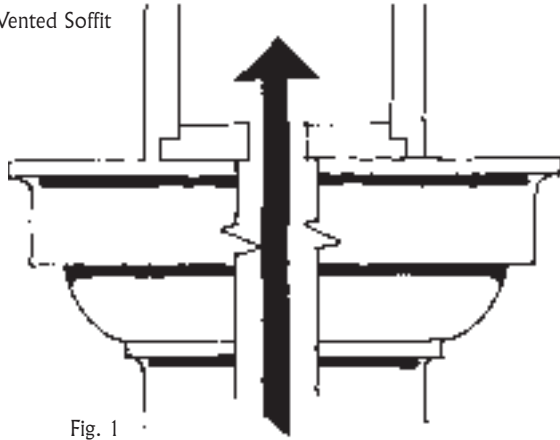
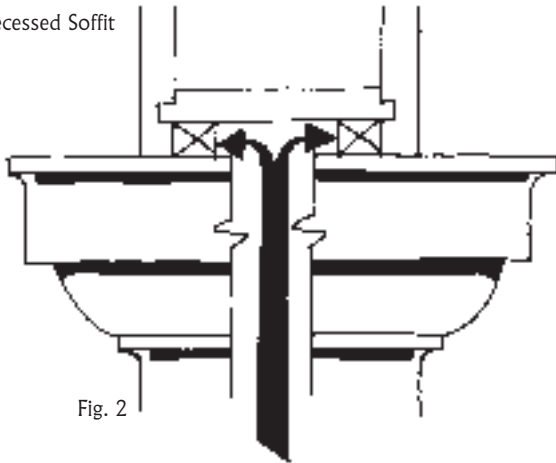

Fig. 1
Fig. 2
Columns must always have adequate ventilation. This can be supplied in two (2) ways: a ventilated plinth and soffit (figures 1 & 3) or a ventilated plinth and recessed soffit (figures 2 & 3). Miniature louvers, or venting into a non-vented soffit are not adequate for proper ventilation to occur. When leveling plinths, be certain that sufficient ventilation area is retained.